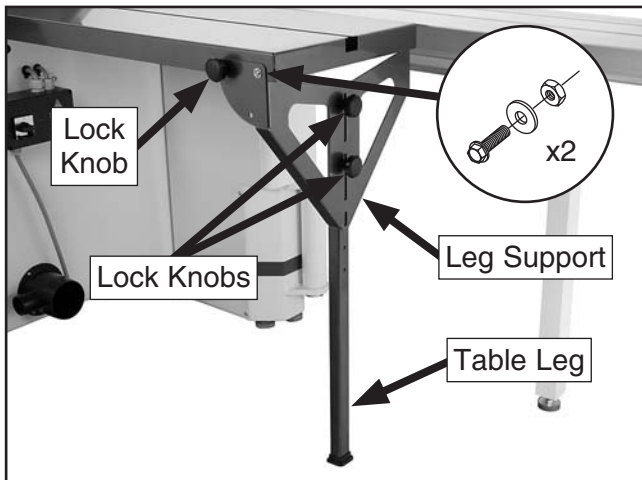

Figure 18. Leg bracket.
- Lift the small extension table and attach the leg support with two flange bolts, flat washers, lock nuts and one lock knob. Then connect the extension table leg with the two lock knobs, as shown in **Figure 18**.